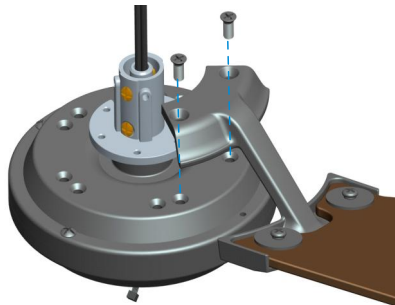

Fig 4.1
4.1 Fix the prepared blade bracket to the motor hub with the blade bracket screws as shown in Fig 4.1.